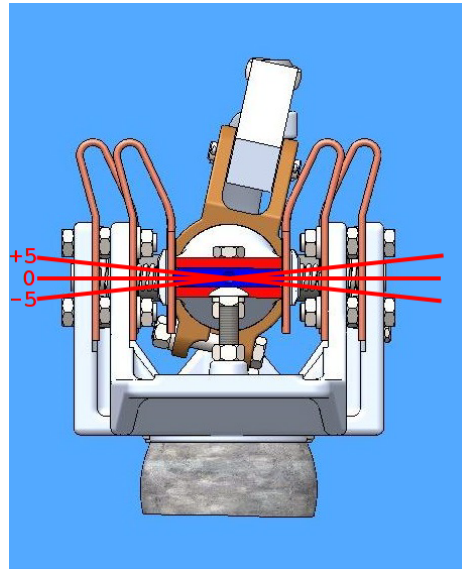

Figure 6: Blade Tip Alignment in Jaw
- 2.1.5. These switches will have adequate contact pressure if the blade has rotated to within plus or minus 5° of perpendicular in the contacts as shown in **Figure 6**. Adjustment of the bearing stop may be required.